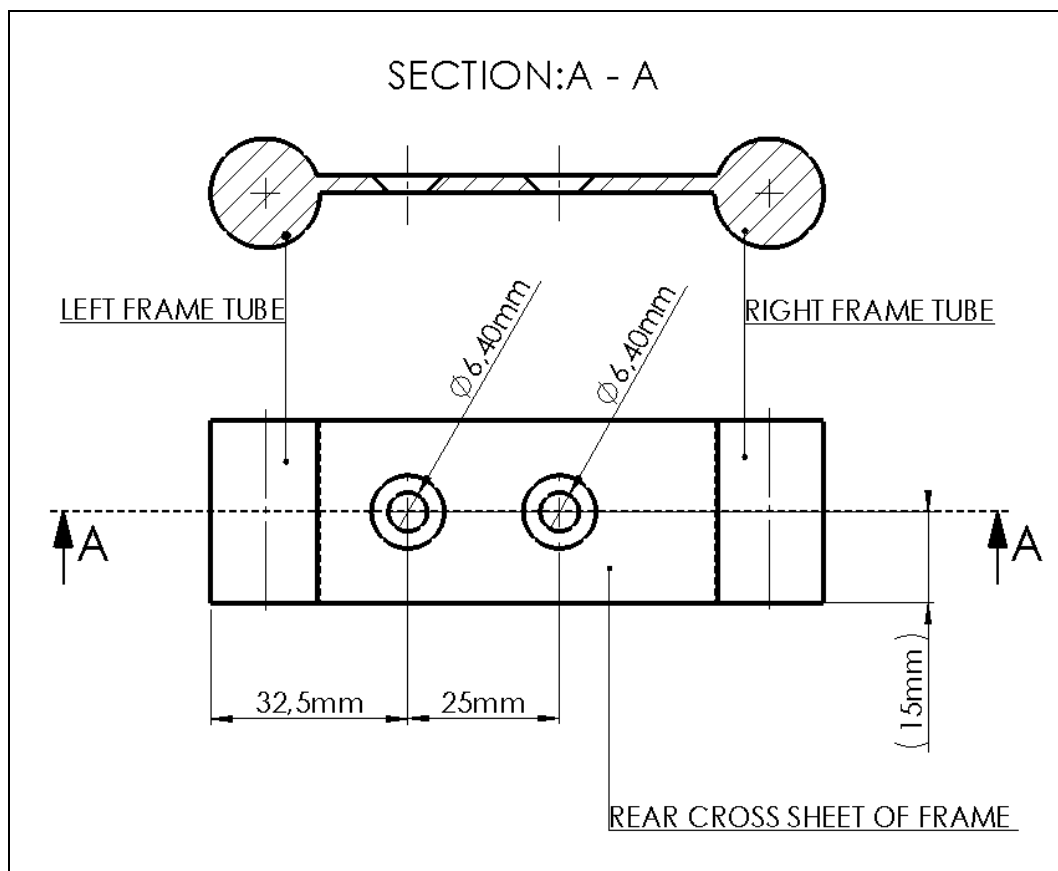
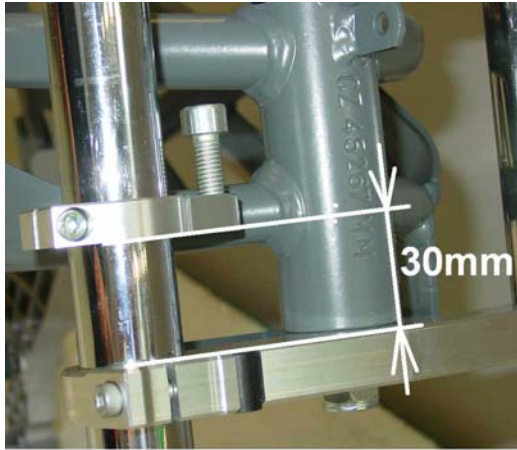
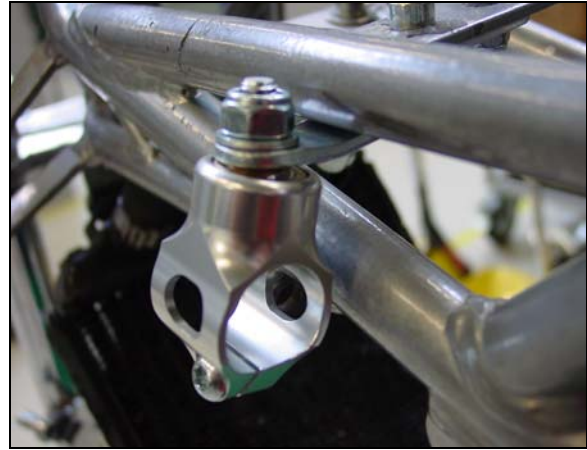
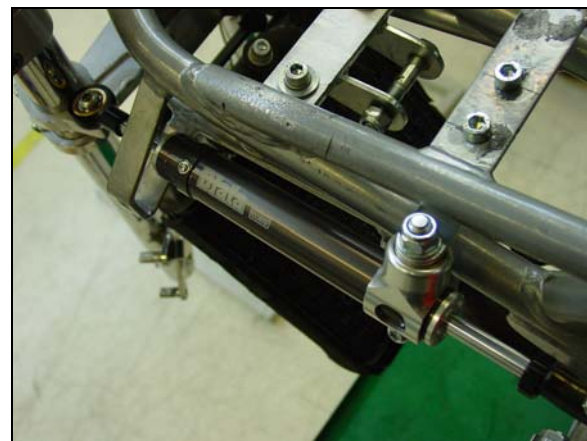

fig.1
fig.2
fig.3
fig.5
Before assembling of the *Steering dumper – TOBY 15C65* (1) drill the trough hole with countersink to rear cross sheet of frame of pocket bike for the Screws M6 x 16 (8) by (fig.1) Bolt the *Sheet holder of steering dumper – WRS* (4) on the rear cross sheet of the frame of the pocket bike. In the next step fasten the *Body holder of steering dumper – complete* (2) on the *Sheet holder of steering dumper – WRS* (4) (fig.3). Slide on the *Holder of steering dumper* (3) on the left fork so the head of the *Screw M5 x 16* (6) point to the left side of the pocket bike and the tighten window point to back from the pocket bike (fig.4). The distance between bottom solid of the *Holder of steering dumper* (3) and top solid of the bottom crown handle is approximately 30mm (fig.2). Slide the *Steering dumper - TOBY 15C65* (1) into the *Body holder of steering dumper – complete* (2) from the front side of the pocket bike. By the Screw *M8 x 25* (7) tighten *Steering dumper - TOBY 15C65* (1) inside the *Holder of steering dumper* (3) (fig.4). When, You are turning of the steering to straight direction adjust position the body of the *Steering dumper – TOBY 15C65* (1) in the *Body holder of steering dumper – complete* (2) so both of extreme positions of the steering wasn't limited by moving of the piston rod of the steering dumper and by Screw *M6 x 12* (9) fix the position the body of the *Steering dumper – TOBY 15C65* (1) in the *Body holder of steering dumper – complete* (2). By turning the steering to the both of the extreme position testing, if isn't part of the *Steering dumper – TOBY 15C65* (1) in contact with part of the frame of the pocket bike (fig.5). Using tightening moments – ( in the tab.)